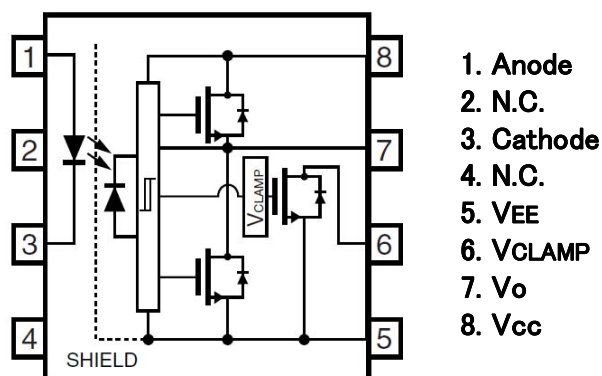

Figure 2.1 PS9332 Equivalent Circuit
The equivalent circuit of the PS9332 is shown in Figure 2.1. The PS9332 features a GaAlAs LED on the signal receiving side, and on the signal output side, a photo detector IC that combines a photo diode (PD), signal processing circuit, and a large-current output circuit along with IGBT protection circuits (active Miller clamp and UVLO). The photo detector IC is fabricated with the Bi-CMOS process proven in other Renesas Electronics IGBT-driving photocouplers, enabling both a high output current ($I_O = 2 \text{ A MAX.}$) and low circuit current ($I_{CC} = 2.5 \text{ mA MAX.}$), which enables high-temperature operation ($T_A = 125^\circ\text{C MAX.}$).